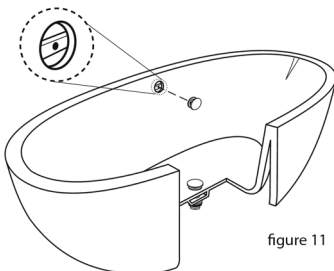

figure 11
20. Then align the Overflow Cover with the bar (installed at the factory in the overflow hole (figure 11).